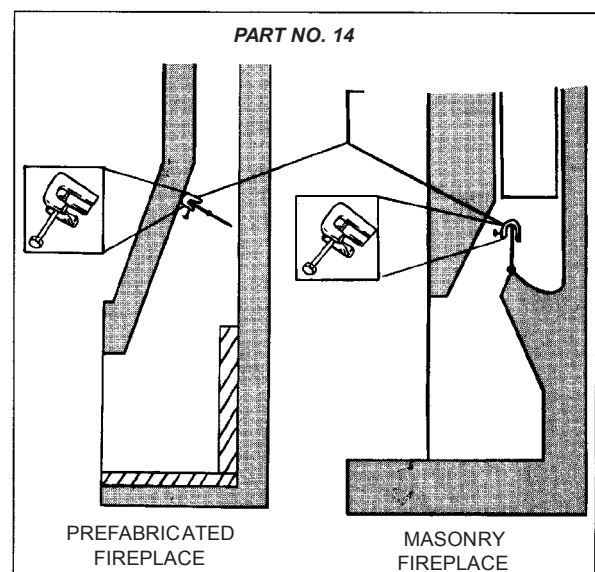

Figure 2. Damper stop clamp
- B. Open fireplace damper fully and install Damper Stop Clamp with 1/4x2" set screw (Part 14#). This clamp is Designed to allow any pilot combustion by-products to vent (See **Fig.2**) Should the Damper Stop Clamp supplied not fit, a permanent damper stop clamp must be installed that will keep the damper open at a distance of not less than 1 1/2".